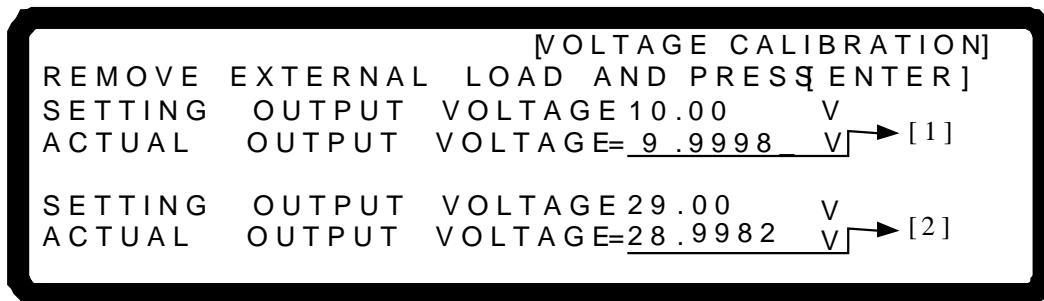

Figure 3-138
5. The device will output 10.00V and the cursor will stop at position [1] as shown in Figure 3-138. Enter the voltage read by the DVM and press “**ENTER**” to confirm it.
6. Press “” to do the second low voltage range point calibration. The device will output 29.00V and the cursor will stop at position [2] as shown in Figure 3-138. Enter the voltage read by the DVM and press “**ENTER**” to confirm it.